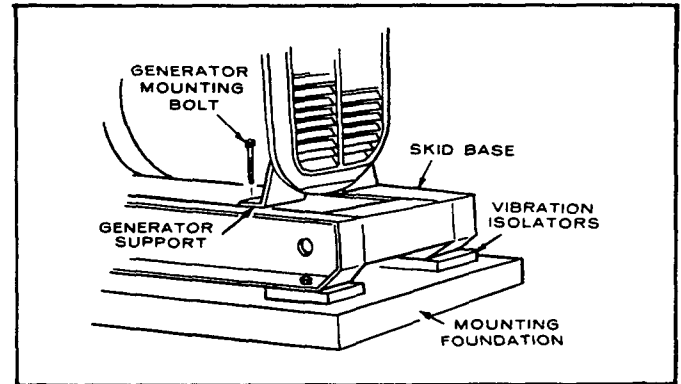

FIGURE 1
1. Set the unit on its mounting foundation using vibration isolators between skid base and foundation (Figure 1). Secure the skid base to the mounting foundation. Remove the two mounting bolts and shims which secure the generator support to the skid base. Use the mounting bolts as jackscrews by moving the mounting bolts to the threaded holes.